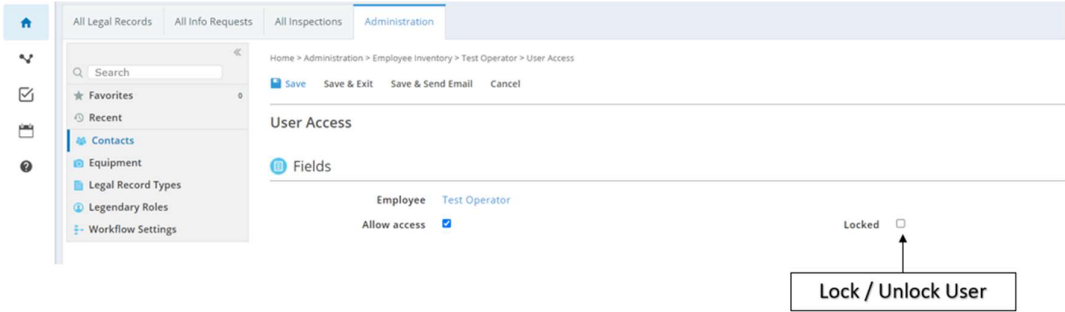

Figure 32: Locking & Unlocking a User Profile
1. Go to the Employee’s User Profile (See Figure 32)
2. Select or Deselect the *Locked* button (See Figure 32)